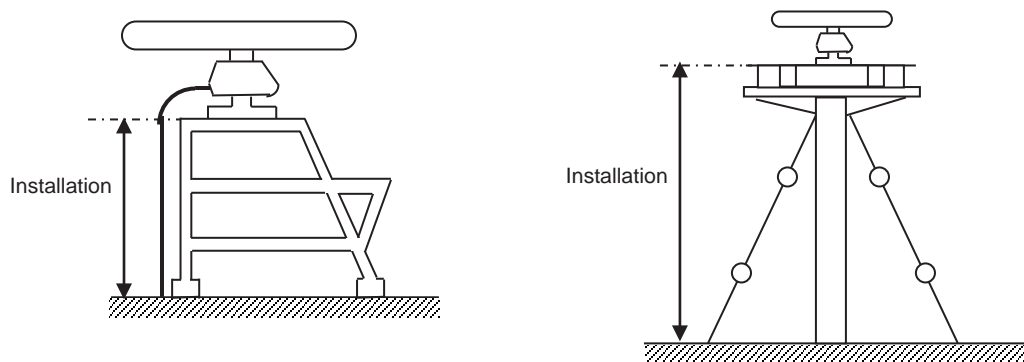

Fig.1-3 Mounting rack and mast for the antenna
- If it is considered that sufficient installation height cannot be provided when the antenna is installed directly on the roof of the building, use a mounting rack or radar mast (Fig.1-3). Normally, when the antenna installation height is less than 2 meters from the roof of the building, provide a mounting rack assembled at an angle frame to install the antenna. When the antenna installation height is 2 meters or higher from the roof of the building, provide a cylindrical radar mast to install the antenna. Consider the convenience of the service staff who take care of installation, maintenance, adjustment, and repair of the antenna by providing adequate footholds to the mounting rack and the radar mast.